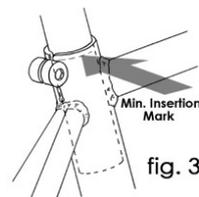
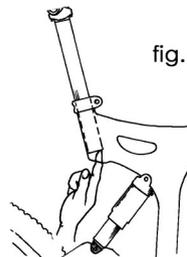

fig. 3
fig. 4
**▲ WARNING:** If your seat post projects from the frame beyond the Minimum Insertion or Maximum Extension mark (see fig. 3) or you cannot touch the bottom of the seat post through the bottom of the interrupted seat tube with the tip of your finger without inserting your finger beyond its first knuckle (see fig. 4), the seat post may break, which could cause you to lose control and fall.